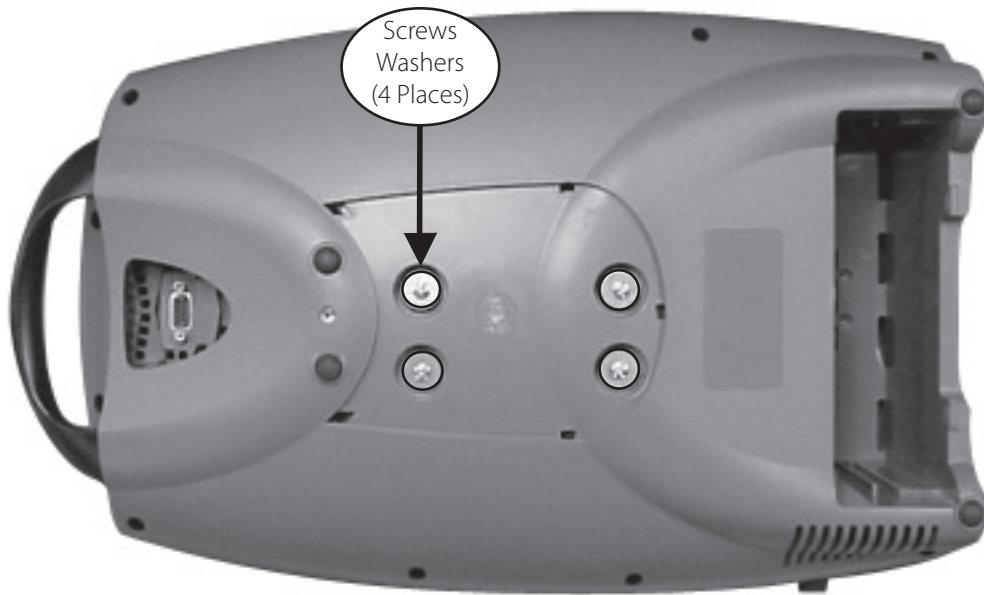

Figure 59: Remove Compressor Box screws.
6. Turn the unit over onto a padded ESD safe surface and remove the 4 screws (M4x16 Pan Head Machine Screw, PN 6961-420-SEQ) and washers (M4 Flat Fender Washer, PN 3568-SEQ) shown in Figure 59.
9. Position the Compressor Box into the Bottom Case with the compressor box screw holes aligned with the 4 brass eyelets. Screw in the 4 screws and 4 washers as shown in Figure 59. Apply small amount of Loctite 425 on the threaded tips of the screw before installing.